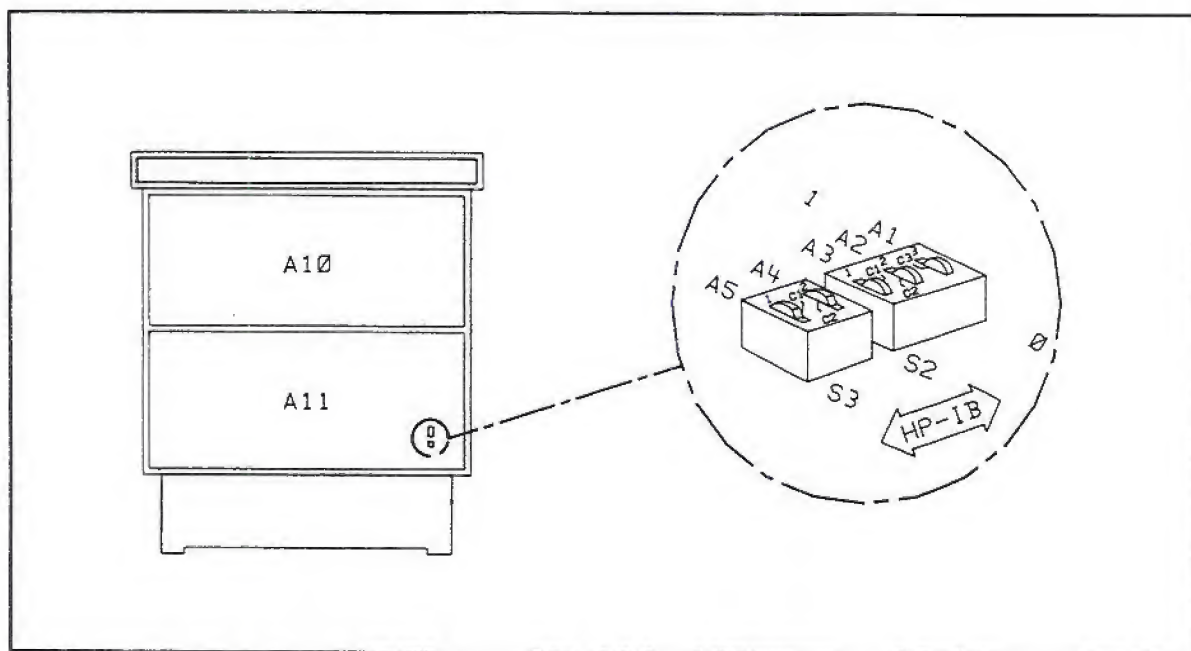

Figure 2-3. HP 8656B/8657A HP-IB Address Switch Location and Settings
- Locate the HP-IB address switches S2 and S3 on the A11 Microprocessor/Memory/HP-IB Assembly (see Figure 2-3).
- Use a pointed object (such as a pencil) to set the switches to the desired HP-IB address in binary (see Figure 2-3). The five switches are labeled A1 through A5, where A1 is the least significant address bit and A5 is the most significant address bit. Pressing the right-hand side of the switch (as viewed from the front of the Signal Generator) "sets" the corresponding address bit (bit = 1), while pressing the left-hand side "clears" the bit (bit = 0). Setting all of the address bits to "1" will result in an invalid HP-IB address (31 decimal). In this case, an HP-IB address of 30 (decimal) is stored in memory once the Signal Generator is powered up.